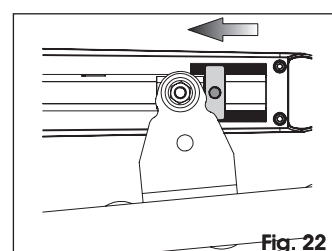

Fig. 22
4. Move the mechanical stop until it is close to the front fitting, as indicated in figure 22.